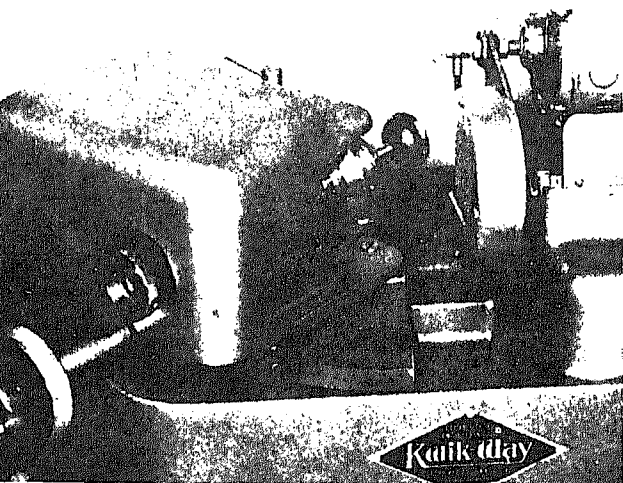

Fig. 2-5-3. Valve grinding
- a. Chuck valve on guide area of stem. Fig. 2-5-3. Relief portions on both ends of guide area are not necessarily concentric to guide area of stem.